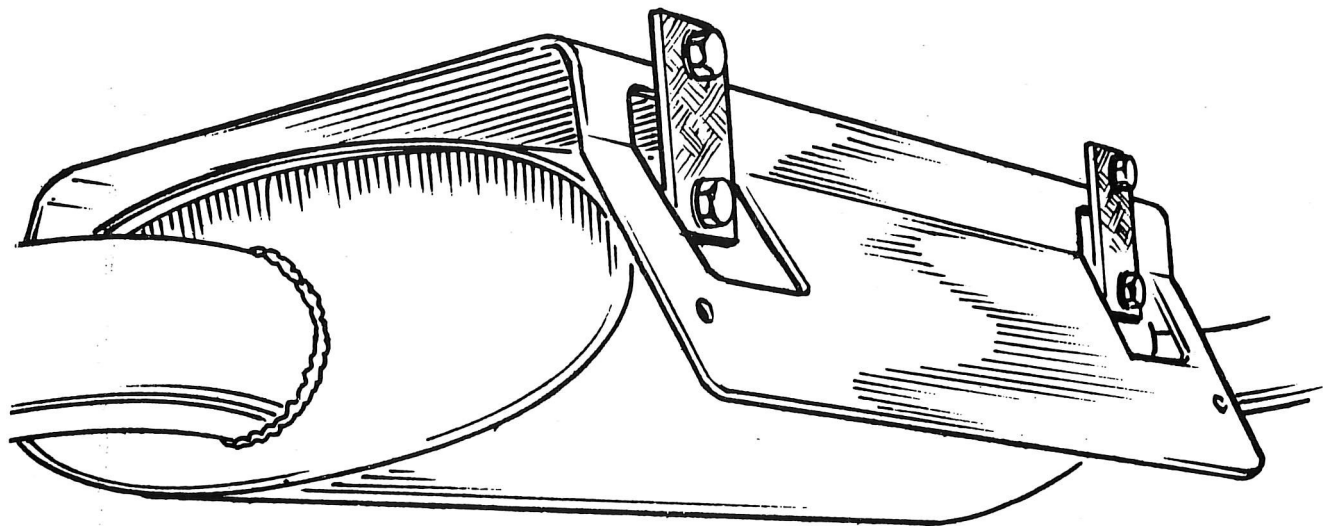

Fig. 6. VIEW OF TRANSVERSE SHIELD IN POSITION
3. Position the heat shield (Part No. A050 S 0161) into the silencer recess so that the silencer suspension straps pass through the cut-outs in the heat shield (see Fig. 6) and cover the marks scribed on the underside of the boot floor.